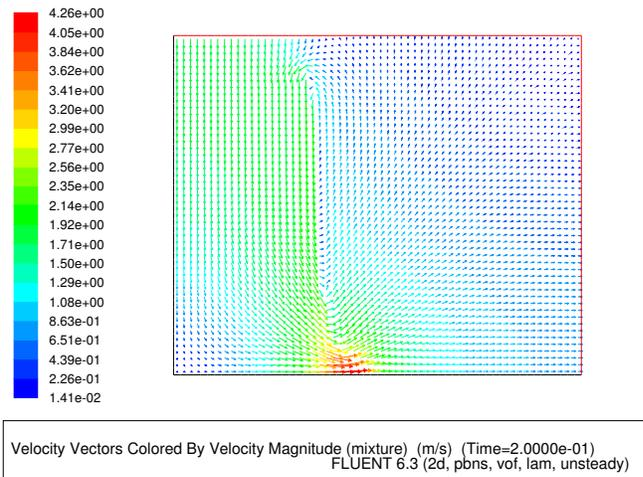
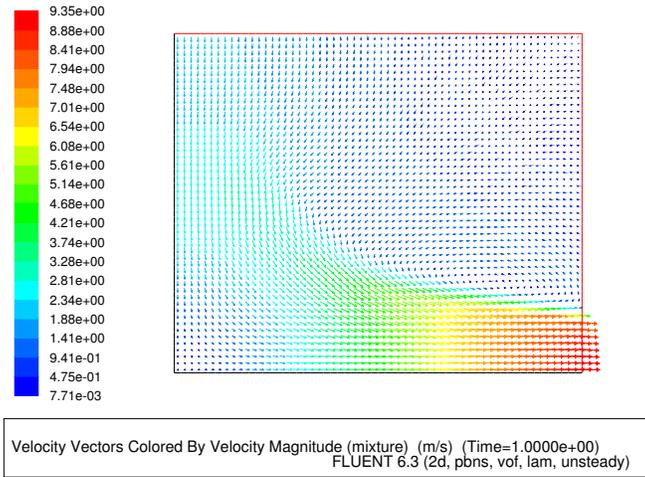

Figure 3: Velocity Vectors Colored By Velocity Magnitude after 20 Time Steps
Figure 9: Velocity Vectors Colored By Velocity Magnitude after 100 Time Steps
The velocity vectors and contours of velocity for the VOF model are displayed for four time step values. The following figures (Figure 3 to Figure 9) show the progression of the solution as the number of time steps is increased.
1. Display velocity vectors after 20 time steps (Figure 3).